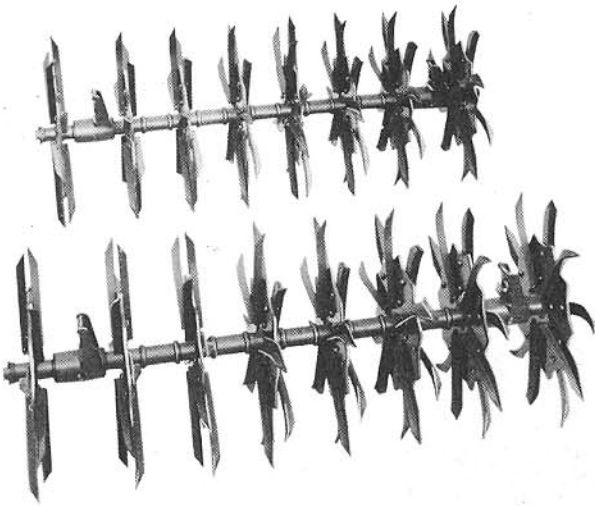

Figure 3
1. Place two hoe wheel gangs in the approximate position shown in Figure 3. The hoe teeth points of both gangs should point in the same direction.